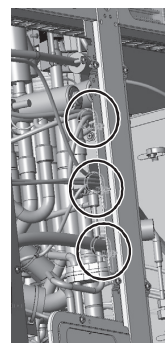

Figure 6
- (5) Remove the three cable straps from the center pillar. (See Figure 6.)